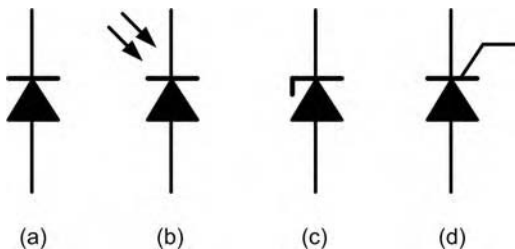

Figure 6.47
- Identify the types of diodes shown in Figure 6.47(a)–(d).